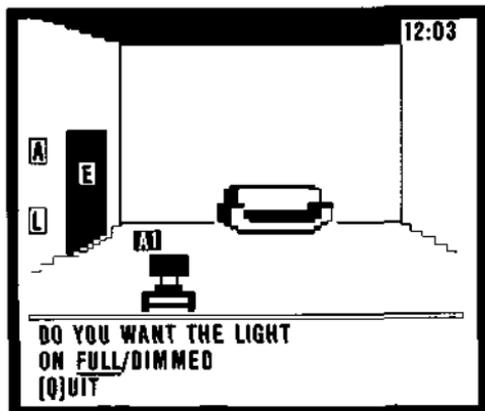

FIGURE 26
3. If you choose **ON** and the symbol you chose represents a light, you will be asked **DO YOU WANT THE LIGHT ON FULL/DIMMED**. See Figure 26.